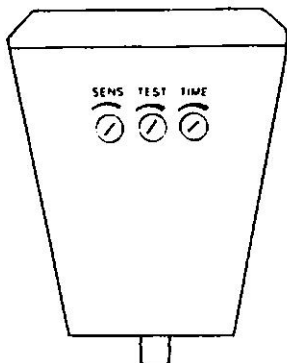

FIG 4
- 2 The control module has three (3) control knobs on the bottom. The function of each is explained below. Refer to Fig 4. Final adjustment of the knobs is explained in the "set up" portion of this manual.